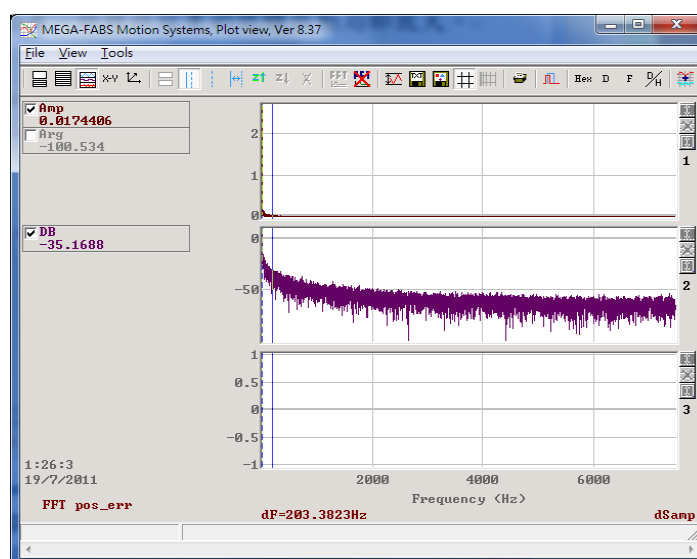

Figure 6.6.6.5
- Step 7: Zoom in on the segment of low frequency and record the maximum amplitude of vibration frequency, as figure 6.6.6.6.